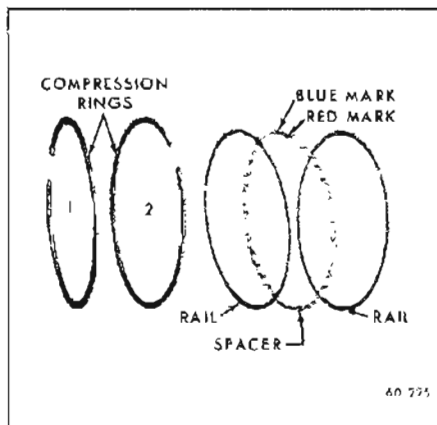

Figure 60-337—Piston Rings
7. Remove compression rings. Then remove oil ring by removing the two rails, spacer, and expander which are separate pieces in each piston third groove. See Figure 60-337.
NOTE: To make certain expander ring does not overlap a red and blue mark will be visible on ring. See Figure 60-337.